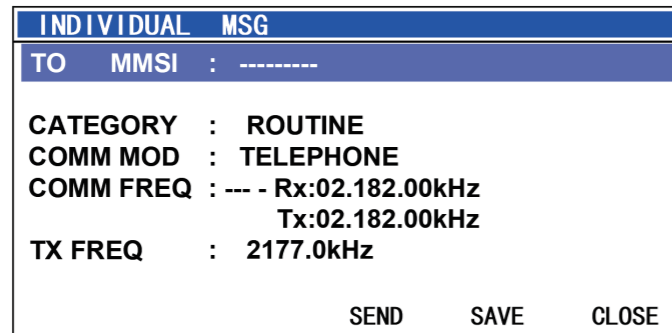

Figure 5.1.1
- b: Use the channel knob to select <INDIVIDUAL MSG>, then press [CH/ENT] to open the editing interface, as shown in Figure 5.1.1.